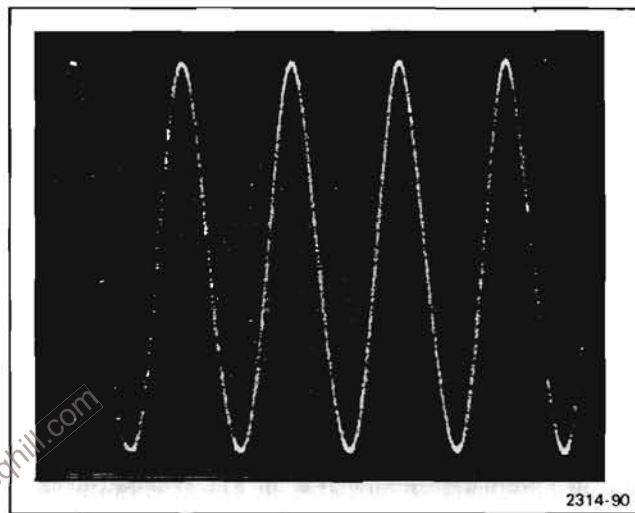

Figure 5-1. Typical 7104 Photographic Writing Rate.
- p. **CHECK**—Photograph should show the 1 GHz sine-wave signal clearly (see Fig. 5-1 for typical photograph).